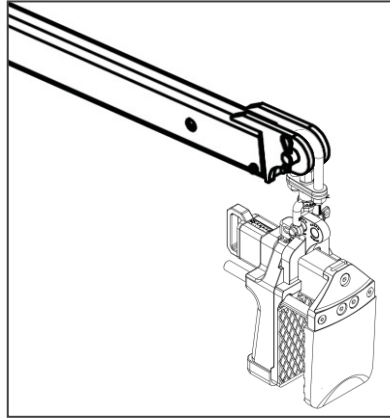

Figure 3.1
Step 3: Hook the Bison Lifter Automatic to a forklift boom (Figure 3.1).